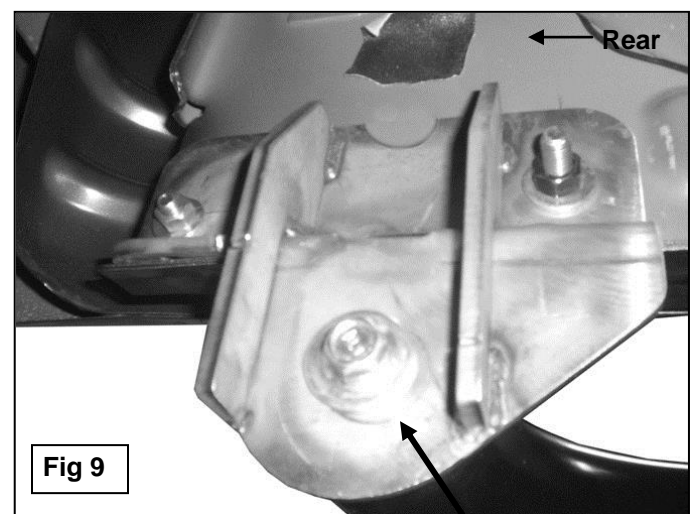

Fig 9
9. Attach the Sidebar to the Mounting Brackets using the included (2) 10-1.50mm x 45mm Hex Bolts, (2) 10mm Flat Washers, and (2) 10mm x 30mm OD x 2.5mm Lock Washers, **(Figure 9)**. Do not tighten hardware at this time.